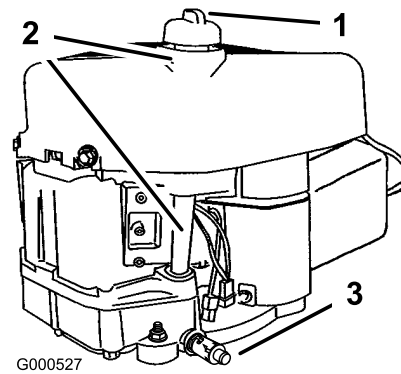

Figure 24
2. Clean around the oil dipstick (Figure 24) so that dirt cannot fall into the fill hole and damage the engine.
- Clean around the oil dipstick and unscrew the cap (Figure 24).
- Slowly pour approximately 80% of the specified oil into the filler tube (Figure 24).